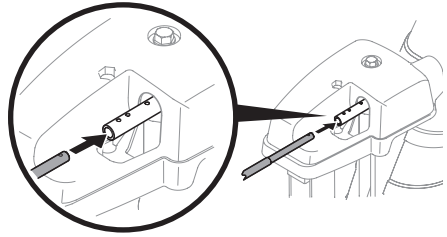

Figure 30
2. Insert round end of chute control rod into chute control head. Push rod as far into chute control head as possible, keeping holes in rod pointing upward (Figure 30).